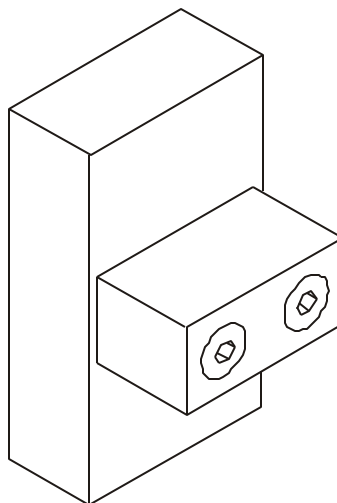

Figure 7
- *For samples glued on glass slides, use the slide holder and glue the back of the glass slide to the front of the holder before securing the slide holder into the vise (figure 7, page 25).*